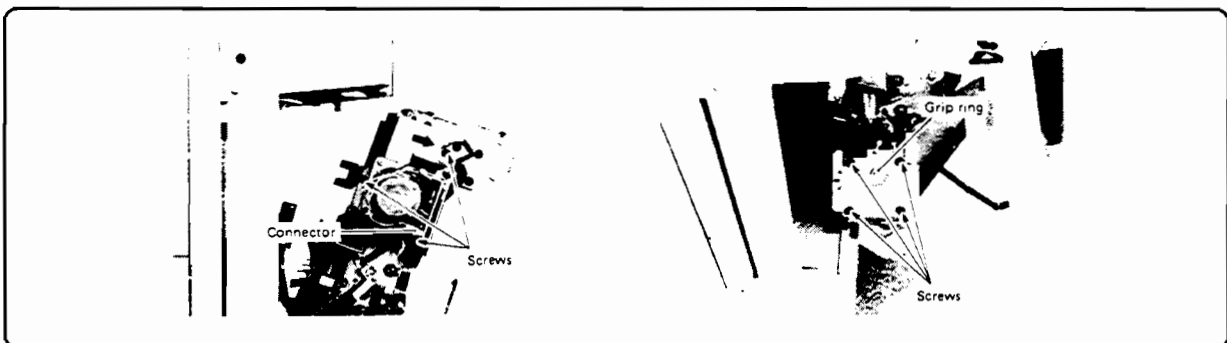

Figure 6-121. Switchback Feeder Motor Removal
4. Remove the three motor mounting screws; then remove the Switchback Feeder motor together with its mounting plate. Unplug the motor control cable (Figure 6-121).
5. Remove the grip ring and take the gear off the drive motor shaft; then remove the four mounting screws and remove the motor together with the motor driver PCA (Figure 6-121).
2. Slide the motor 0.2 - 0.3 mm in the direction indicated by the arrow in Figure 6-121; then fasten the motor to the switchback feeder.